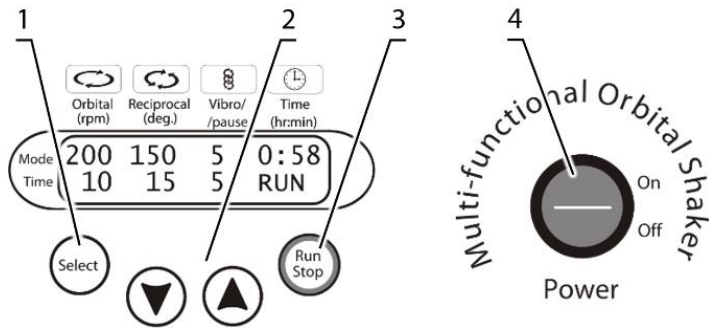

Figure 3. Control panel of PSU-20i
- 5.2.1 Connect the external power supply to the mains and switch on the **Power** switch (fig. 3/4).
- 5.2.4 Press the **Run Stop** key (fig. 3/3) to start the program. The platform motion starts, the indication RUN, and the changing time values are shown on the display.
- 6.3 Press the **Select** key (fig. 3/1) to choose the parameter to change. Each pressing of the **Select** key consecutively activates the parameters. The active parameter is flashing. Use the **▼** and **▲** keys (fig. 3/2) to set the necessary value. Pressing the key for more than 2 s increases the speed of value change.